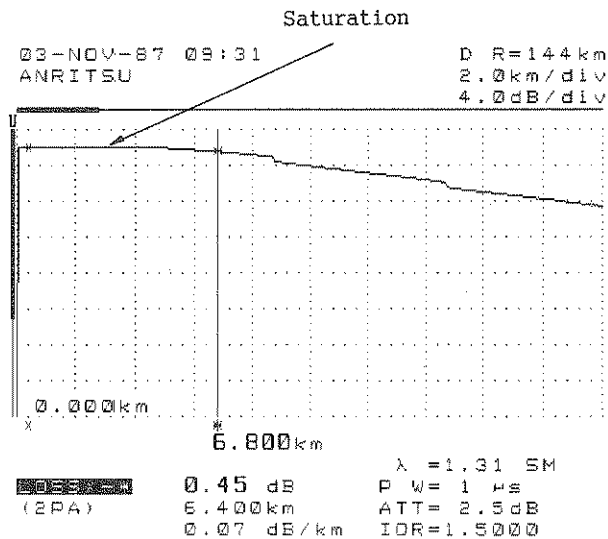

Fig. 3-8 Waveform Caused by Amplifier Saturation
- (1) When the level of optical fiber Fresnel reflection or backscattered light is too high, the waveform is as shown in Fig. 3-8 and cannot be controlled by the [SHIFT V] key because the MW910C amplifier becomes saturated. This adversely affects the loss measurement accuracy, so eliminate the curve by adjusting as described above.
- (2) When the backscattered light level is low, increase the gain by adjusting as described above.